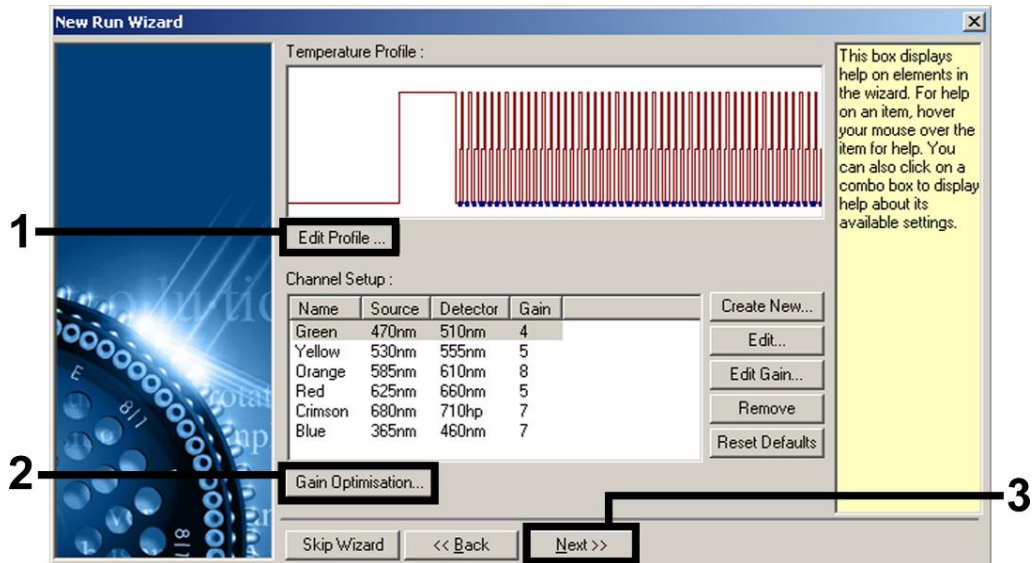

Figure 3. Editing the profile. Screenshot for the *artus* HI Virus-1 QS-RGQ Kit is shown as an example.
5. Click **Edit Profile** in the next “New Run Wizard” dialog box (Figure 3). Program the appropriate temperature profile for the relevant *artus* QS-RGQ Kit as shown in Table 1, using the example screenshots in Figures 3–6 as a guide (screenshots for the *artus* HI Virus-1 QS-RGQ Kit are shown as examples).
- 6a. Click **Gain Optimisation** in the “New Run Wizard” dialog box (see Figure 3) to open the “Auto-Gain Optimisation Setup” dialog box.